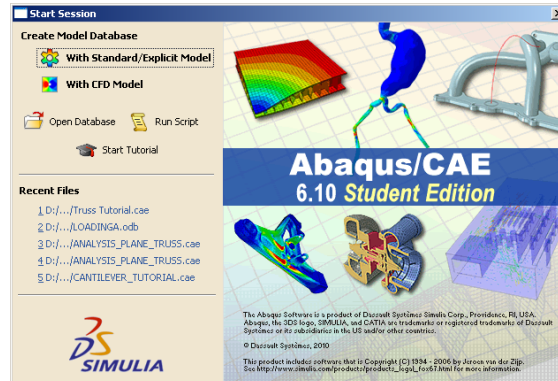

Figure 2. Abaqus/CAE 6.10 Student Edition box
- You may be prompted with an **Abaqus/CAE 6.10 Student Edition** box (Figure 2). Close this box by clicking the **X** in the top right hand corner.